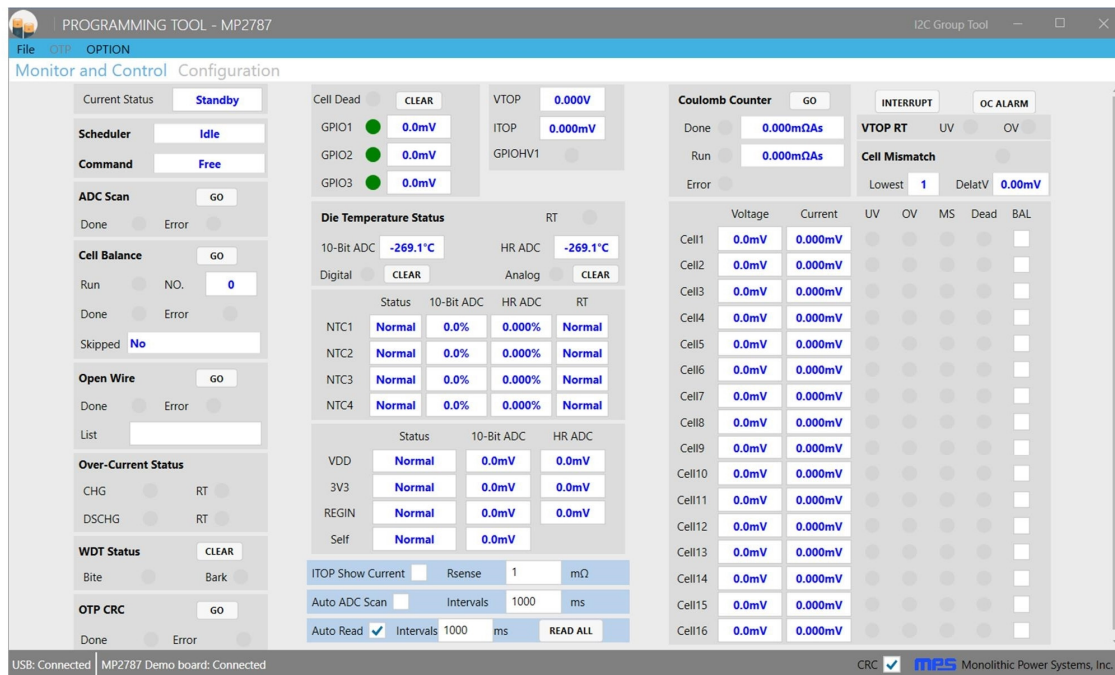

Figure 11: USB and MP2787 Demo Board Statuses Show Successful Connection
- If the connection is successful, the USB and MP2787 demo board statuses are listed as “Connected” at the bottom left of the screen (see Figure 11 on page 11).